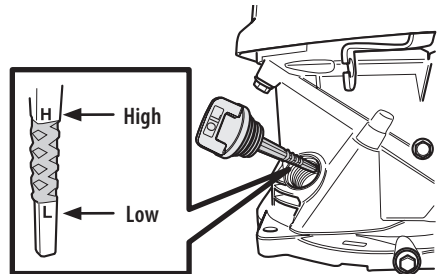
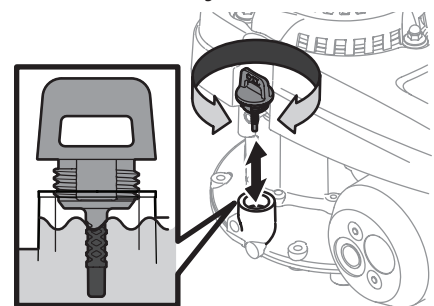

Figure 2
Figure 3
1. Remove the oil fill cap and wipe the dipstick clean. See Figure 2 or Figure 3 depending on angle of the oil filler neck.
- Angled Oil Fill Neck (Figure 2) - Remove oil fill cap. If the level is low, slowly add oil until oil level registers between high (H) and low (L).
- Vertical Oil Filler Neck (Figure 3) - Remove the oil fill cap. If the level is low, slowly add oil to the upper limit on the dipstick.